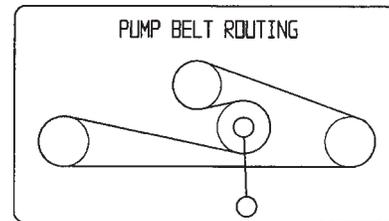

Figure 63
1. Pull the spring loaded idler down and remove the traction belt from the engine and hydro pump pulleys (Fig. 63). Remove the belt between the pulleys.
2. Install the new belt around the engine and hydro pump pulleys (Fig. 63).
3. Pull the spring loaded idler down and align it below the traction belt. Release the pressure on the spring loaded idler (Fig. 63).